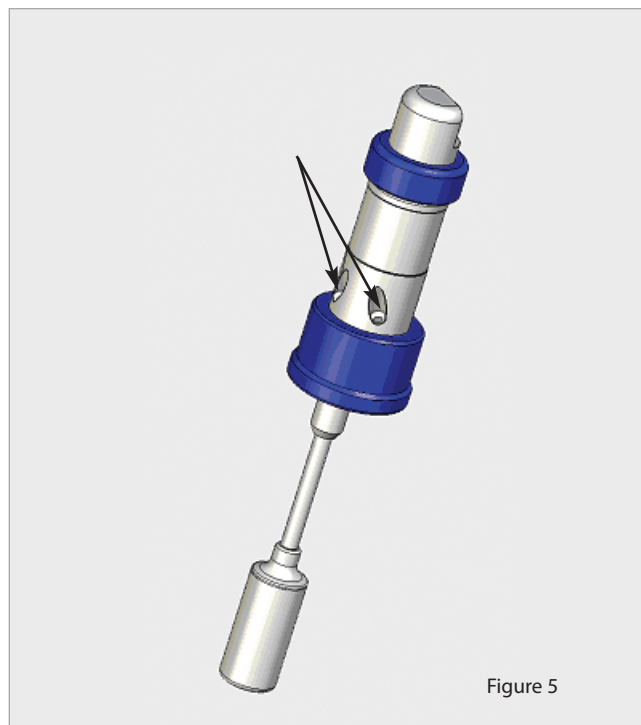

Figure 5
To install the unit: (Figure 5)
2. Insert the waste lines into the inlets (indicated by arrows in Figure 5).